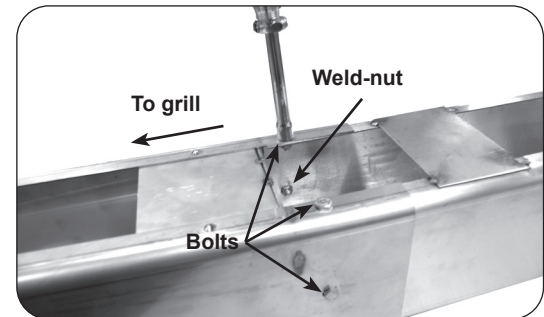

Fig. 26-2 Fasten extension to post
2. From outside the joined post and extension, insert one of the $\frac{1}{4}$ X 20"-5/8 bolts (supplied) into each of the five (5) bolt holes and tighten each using a $\frac{7}{16}$ " socket driver or wrench (see Fig. 26-2).